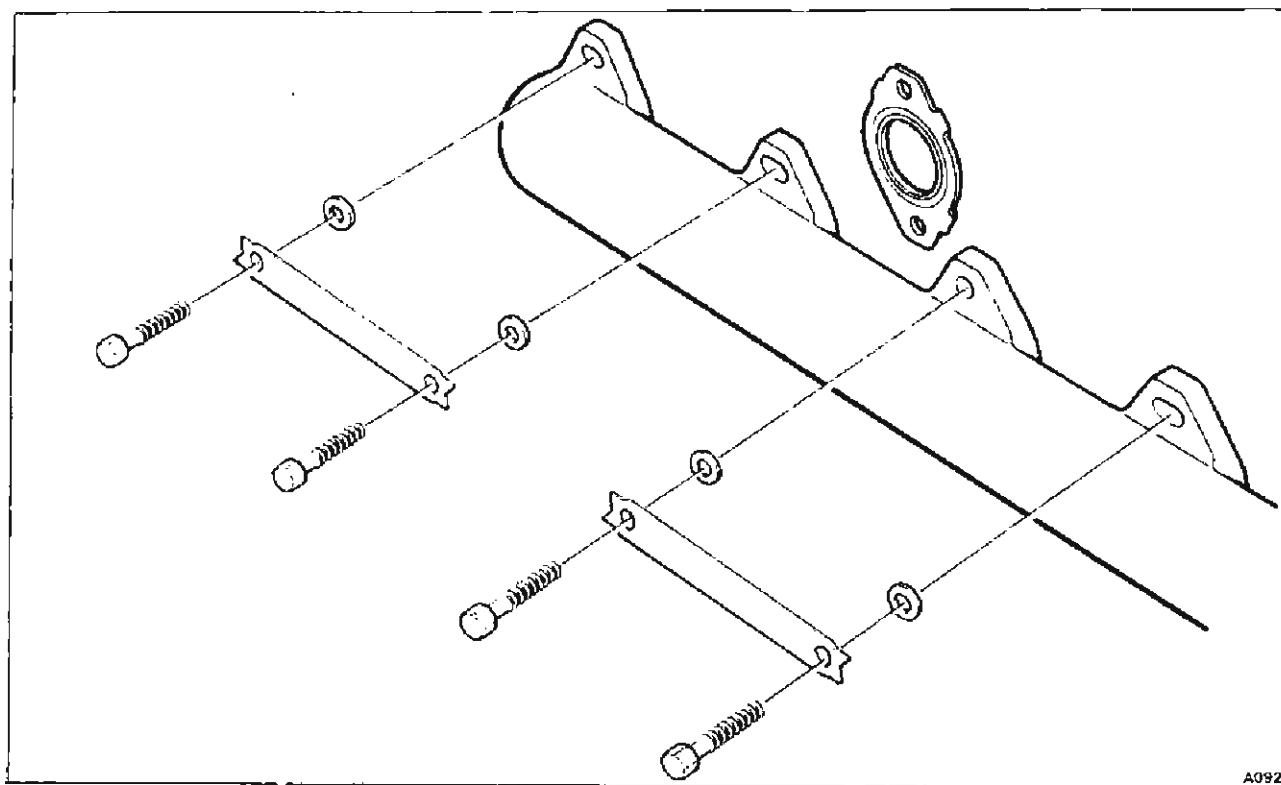

Fig. 1
The distance pieces previously used are now deleted and replaced by plain unplated washers, all of the setscrews are now locked using lock-plates (see fig. 1).
- 2 The new setscrews should be installed using the plain washer and lock-plates as shown in figure 1.